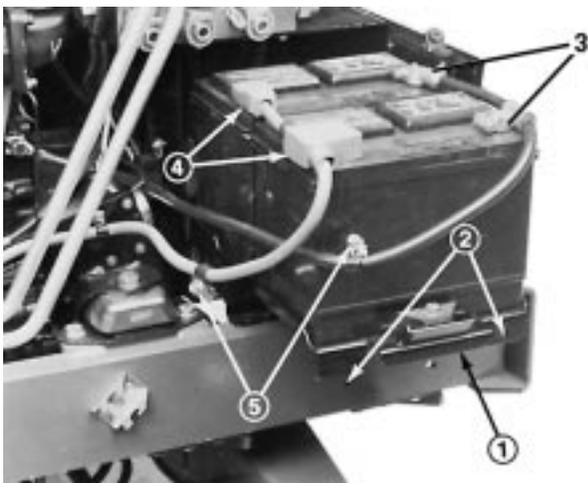

Figure 2
2. Remove the capscrews securing the battery tray and slide the tray out (Fig. 2).
4. Remove negative (-) battery cables from batteries (Fig. 2). Connect a 3 to 4 Amp battery charger to the posts. Charge the batteries at a rate of 3 to 4 Amperes for 4 to 8 hours.